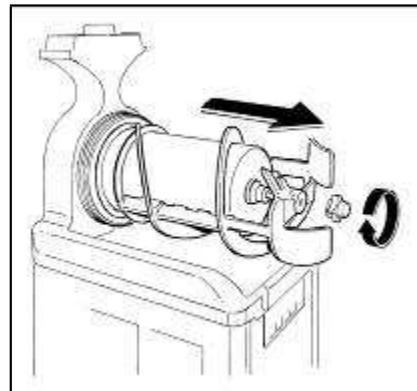

Рис. 31
- Unscrew the security knob in the direction of the arrow (threading on left), then pull out the mixing unit, the bell shaped seal and the bowl gasket on the back (Рис.31).